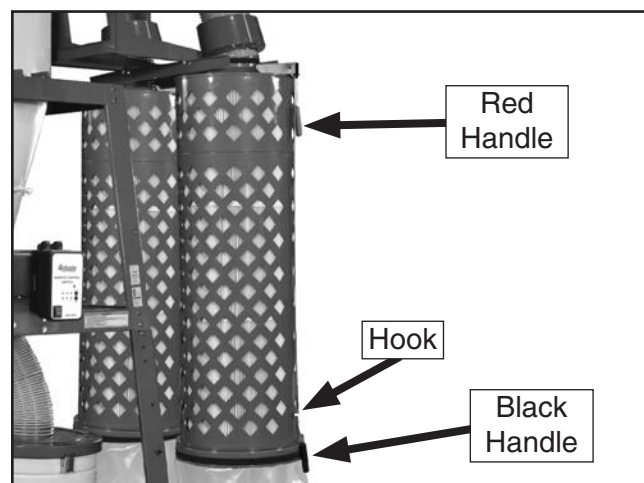

Figure 89. Black handle cable secured in the handle hook.
3. Pull the black handle all the way down and secure the cable into the handle hook at the bottom of the canister assembly, as shown in **Figure 89**, to hold it in place during the following steps.